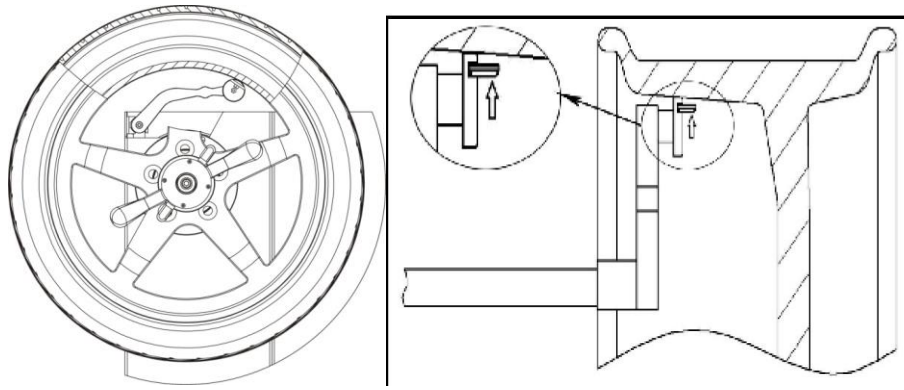

Fig 21
4.6 Paste the weight on the wheel see Fig 21